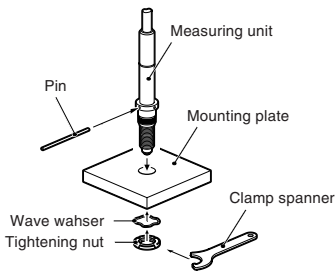

Fig. 1
- In operating the feeler with a vacuum pump, use such an air-pass system as shown in Fig. 1 to enable air driving. The optimum vacuum rate is 40 to 66.7 kPa. Further, put such an orifice as shown in Fig. 2 on a tube from the air lifter connector to control the air suction and discharge speed. The feeler is lifted at the air discharge to the vacuum pump.
- Be sure to use the supplied tightening nut, wave washer, clamp spanner and pin to mount the measuring unit (Fig. 1).